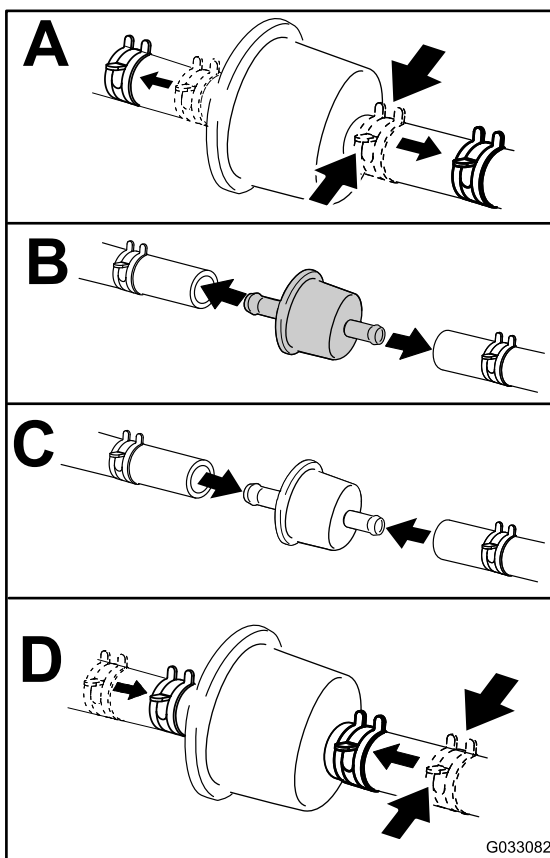

Figure 45
3. Replace the filter (Figure 45).